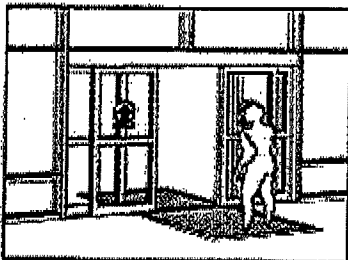

Figure 4
6. Step on "opening" mat in several places. Door should slide open smoothly and stop without impact. (See Figure 4)